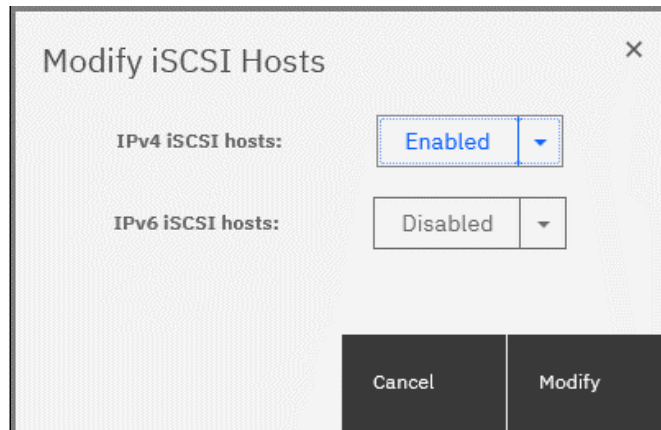

Figure 7-18 Modifying the port for host connectivity
10. The dialog box that is shown in Figure 7-18 opens. Make any necessary changes and click **Modify**.